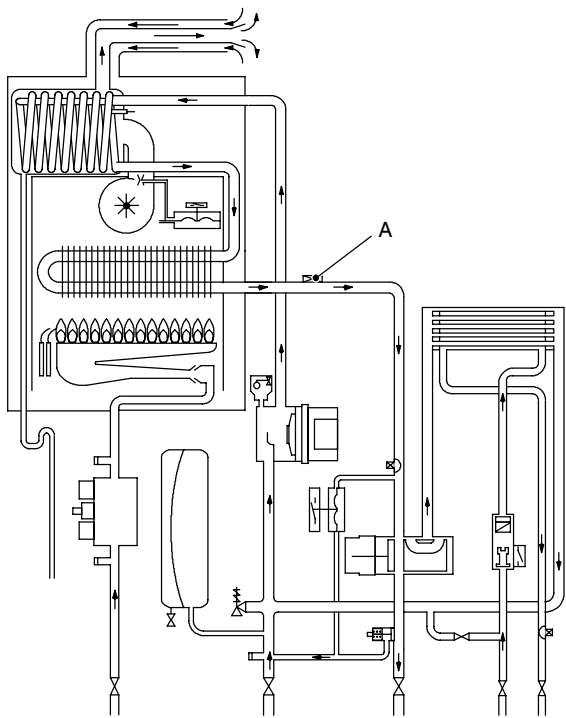
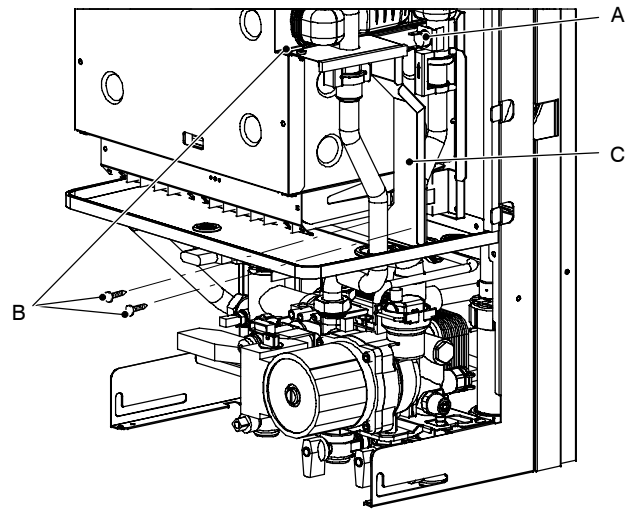

Fig. 78
Fig. 79
The safety thermostat A in Fig. 78 and Fig. 79 is a device that senses the temperature of the primary circuit water which flows in the outlet pipe of the primary heat exchanger.
- 2 Remove the screws B and the plate C (Fig. 79).
- 2 Remove the screw B and the plate C (Fig. 79).
- 3 Remove the plate C (see Fig. 79 on page 39).